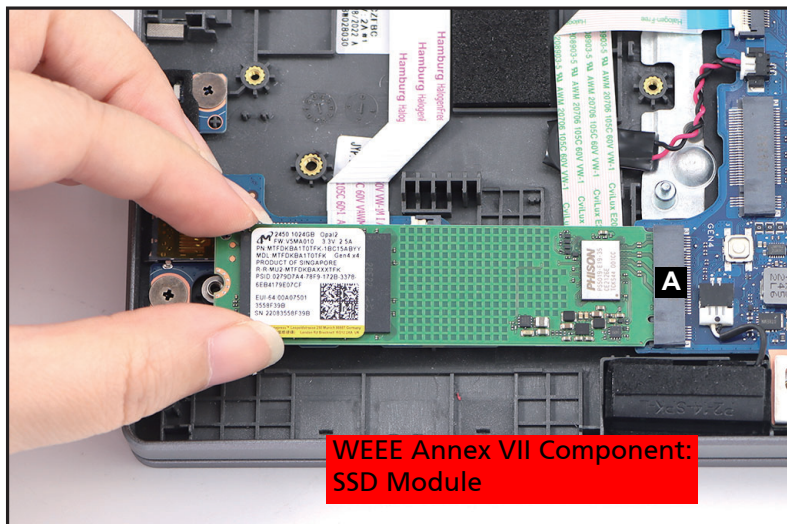

Figure 1-12. SSD Module Removal
2. Disconnect the SSD module from the mainboard connector (A) (Figure 1-12).